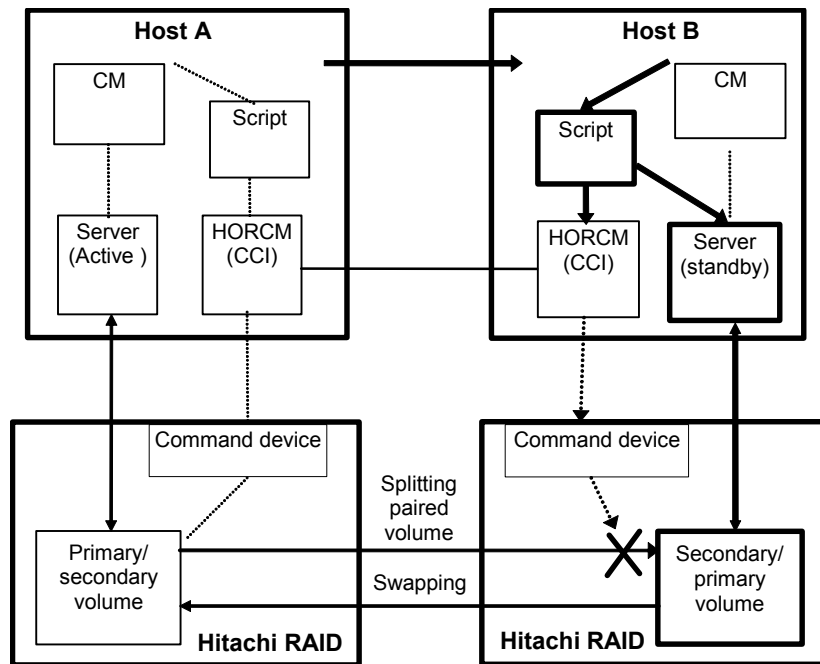

Figure 2.4 Server Failover System Configuration
Figure 2.4 illustrates the server failover system configuration. When a server software error or a node error is detected, the operation of the failover software causes the Cluster Manager (CM) to monitor server programs, and causes the CM of the standby node to automatically activate the HA control script of the corresponding server program. The HA control script usually contains the database recovery procedures, server program activation procedures, and other procedures. The takeover commands provided by Hitachi TrueCopy are activated by the control HA script and execute the control needed for failover of the server.